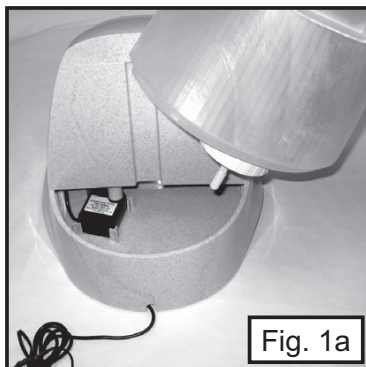

Fig. 1a
- 4) Lift up the reservoir and check to make sure the intake tube is properly inserted into the motor. (Fig. 1a &1b)